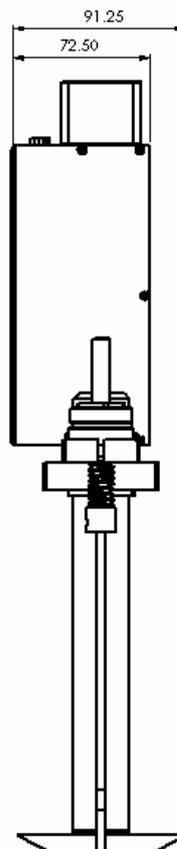

Figure 3-3 The right view of the controller
- Left view installation drawing of the height controller and related dimensions, as shown in Figure 3-3.